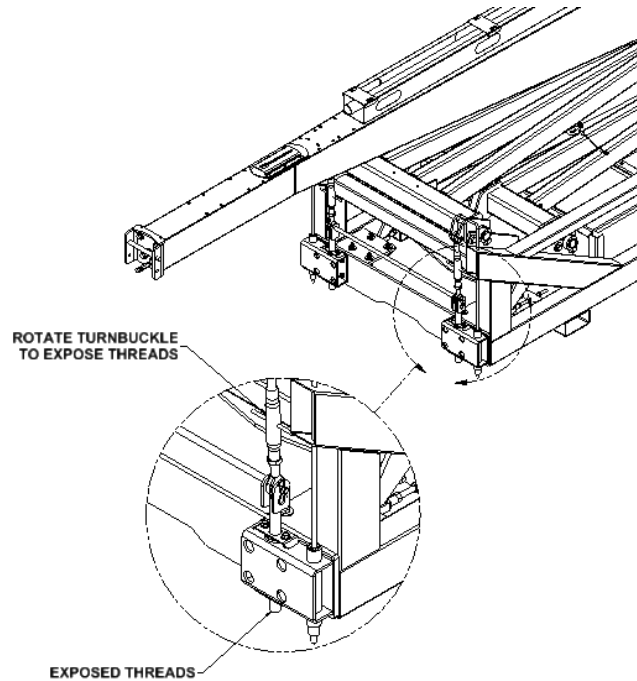

Figure 1
1. Expose threaded rods at front of unit by turning the turnbuckles shown in figure 1.